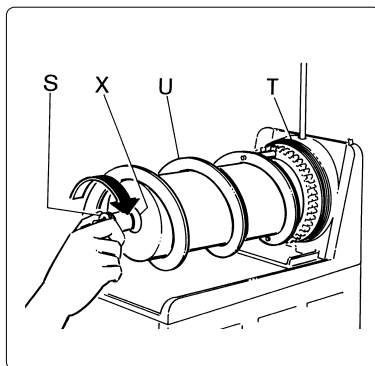

Fig. 14
- d) Unscrew the securing bolt (S) in the direction of the arrow (threading on left), then extract the mixing unit (U) and the washers (X) and (T) (see fig. 14).